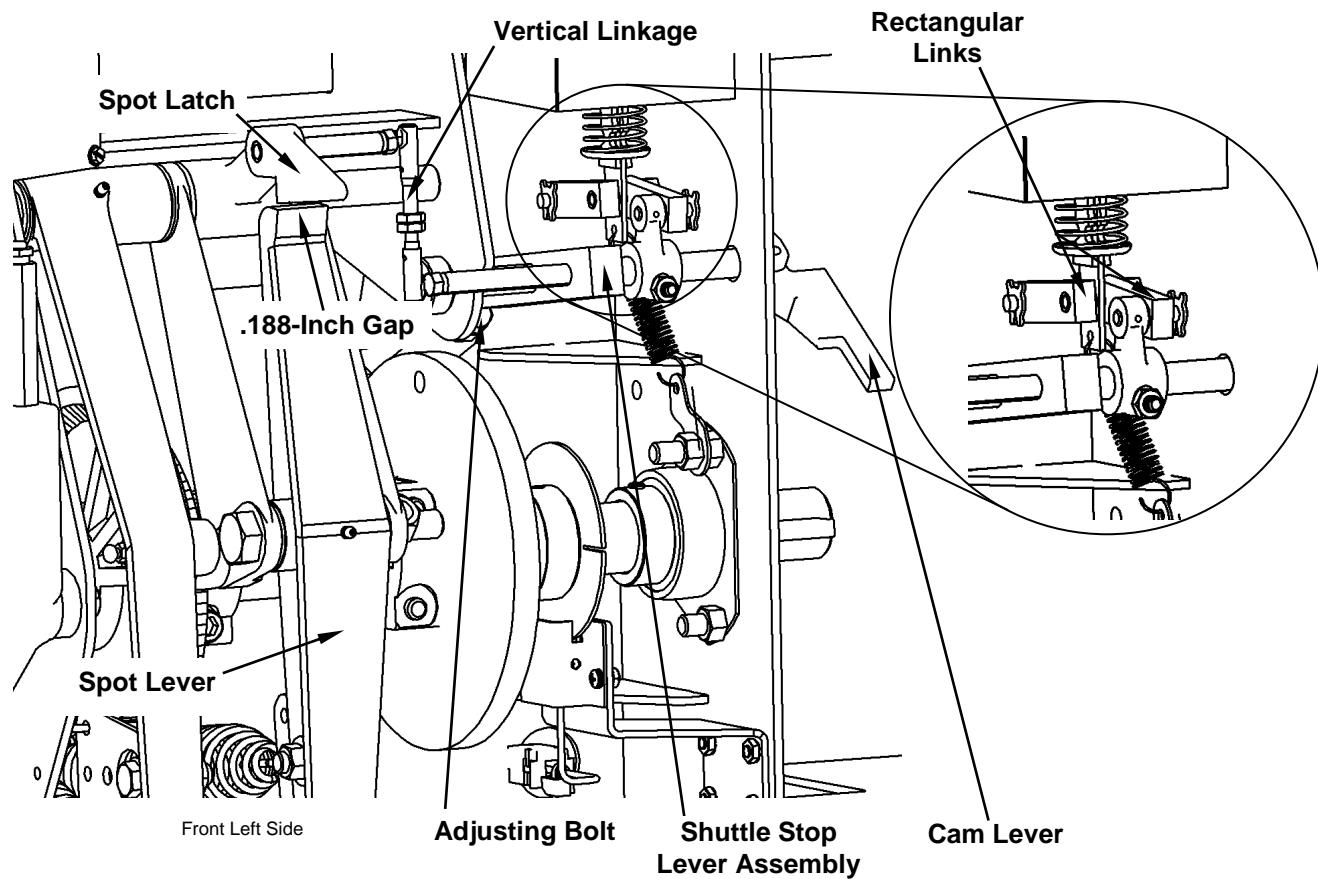

Figure 4.2-15
- With the table at the home position, the distance between the end of the shuttle stop lever assembly and the adjusting bolt (see Figure 4.2-15) should be .015 inches. Adjust the bolt to provide this spacing and then tighten the jam nut.
- When the spotting solenoid is actuated, the cam lever should be locked in the down position. This locked condition is established when solenoid engagement causes the two rectangular links (see Figure 4.2-15) to align horizontally. Test for locking by manually engaging the solenoid and then pulling up on the cam lever. The lever must remain in the down position. This rigidity is necessary to disengage the eccentric's latching mechanism during a spotting cycle. If the lever moves, some part of the linkage is worn or broken and must be replaced.